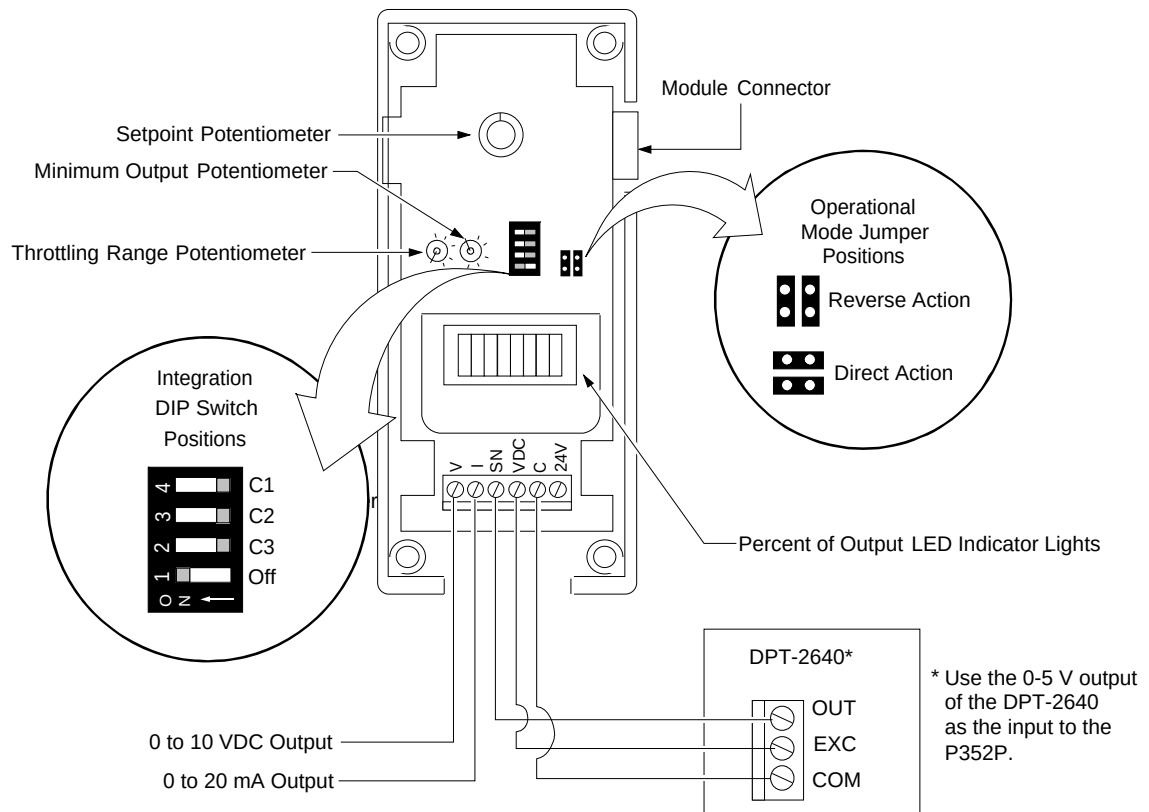

Figure 2: Interior View Showing P352P Features
The P352P has three field-selectable integration constants as well as an off position. The DIP switch block that selects the integration constant is located on the lower circuit board next to the RA/DA mode jumper blocks (see Figure 2). The field-selectable integration constants include:
2. Set the RA/DA jumper blocks to the desired mode of operation. Position the jumper blocks vertically for RA (Reverse Acting) or horizontally for DA (Direct Acting) (see Figure 2).
- a. Connect a Digital Voltmeter (DVM) between the "24 V" (+) and "C" (-) terminals located on the P352P's terminal block (Figure 2).